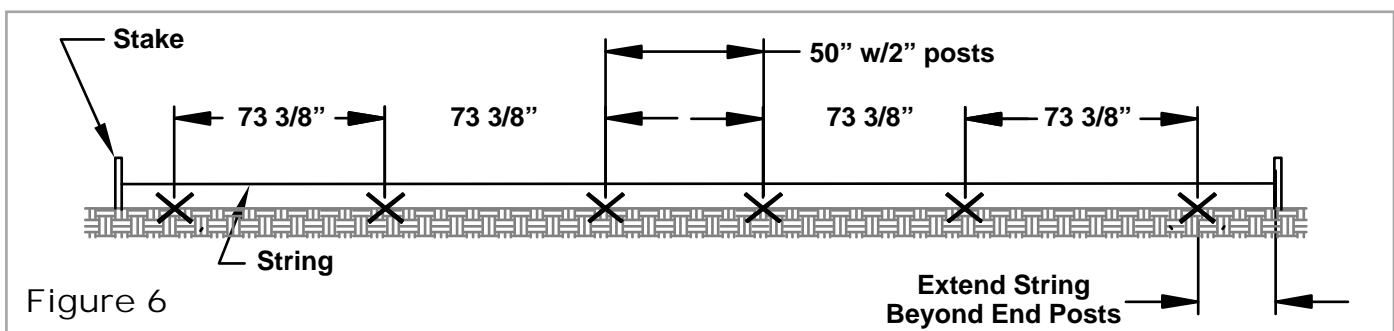

Figure 6
2. Mark holes every 73 3/8" with 2" posts on center – if there is a gate in the line add 2" to gate opening when marking – then resume the 73 3/8" with 2" posts panel spacing. Example: If you have a 48" gate opening, mark the holes for your gate posts 50" on center with 2" posts. (Figure 6)